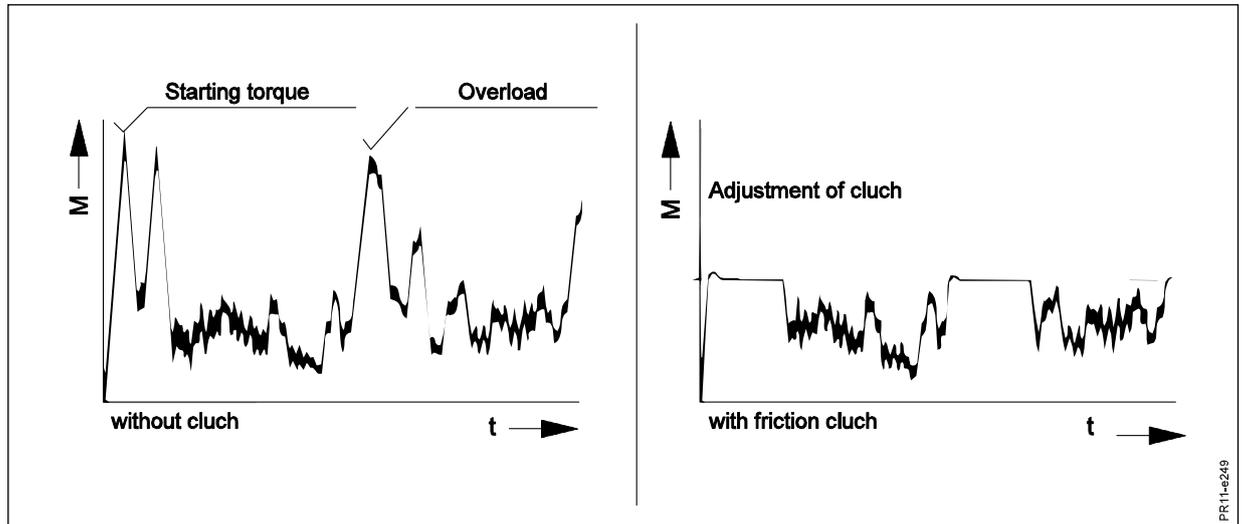

Fig. 7-2
**Fig. 7-2** In order to ensure a long life for your tractor and machine, the machine is delivered with a **friction clutch** on the front PTO drive shaft. The figure illustrates how the clutch protects the transmission against high torque peaks and at the same time is capable of transmitting the torque while it is briefly in function (slips).